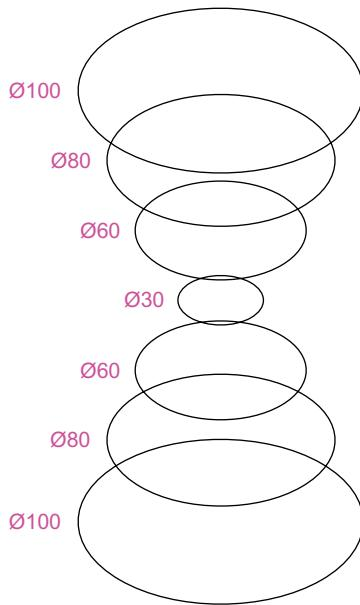

Fig. 12.39 Example Loft – the cross sections
1. In the **3D Navigate/Top** view, construct the seven circles shown in Fig. 12.39 at vertical distances of **30** units apart.